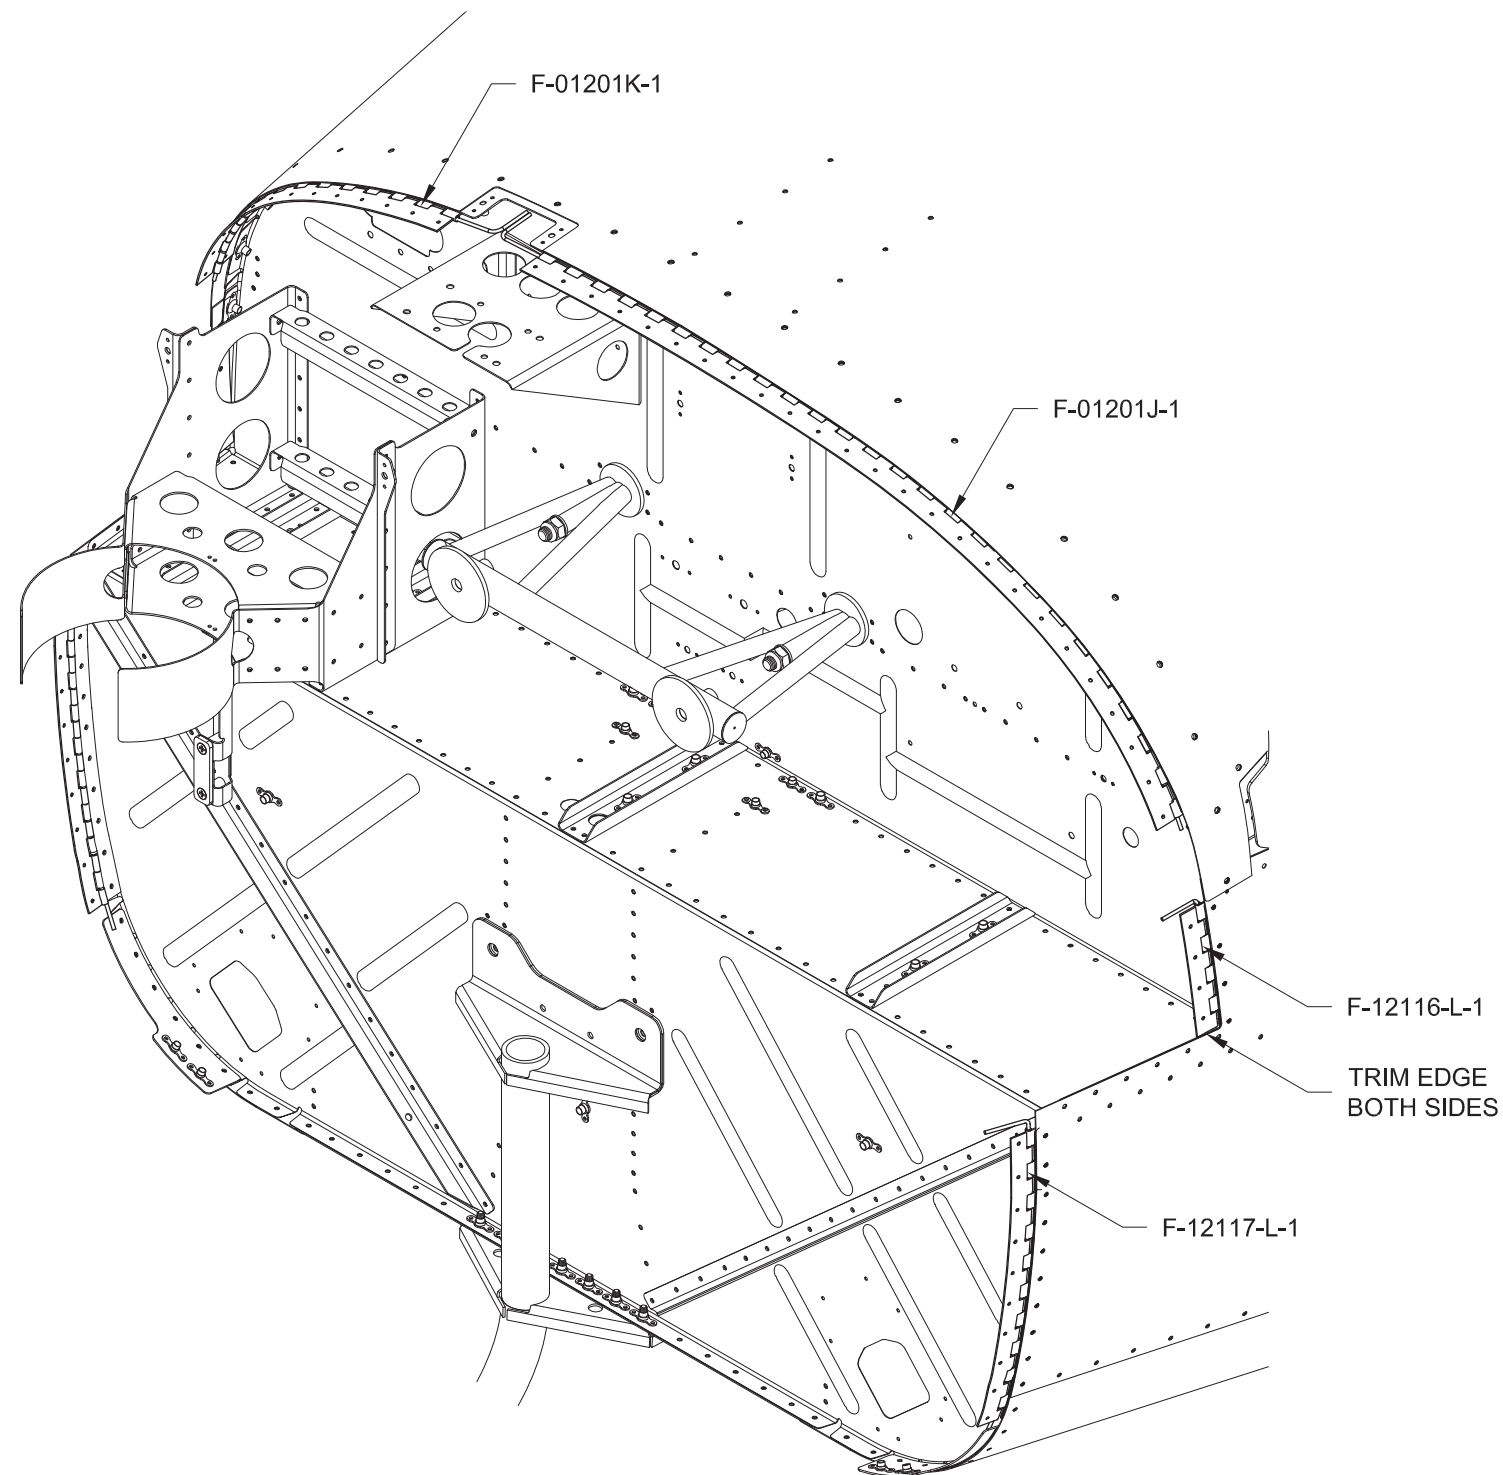

FIGURE 1: FORMING THE HINGE HALVES AND PINS
Step 2: Bend the hinge halves and hinge pins to their installed shapes (i.e. until they match their corresponding aft hinge halves) as shown in Figure 1.